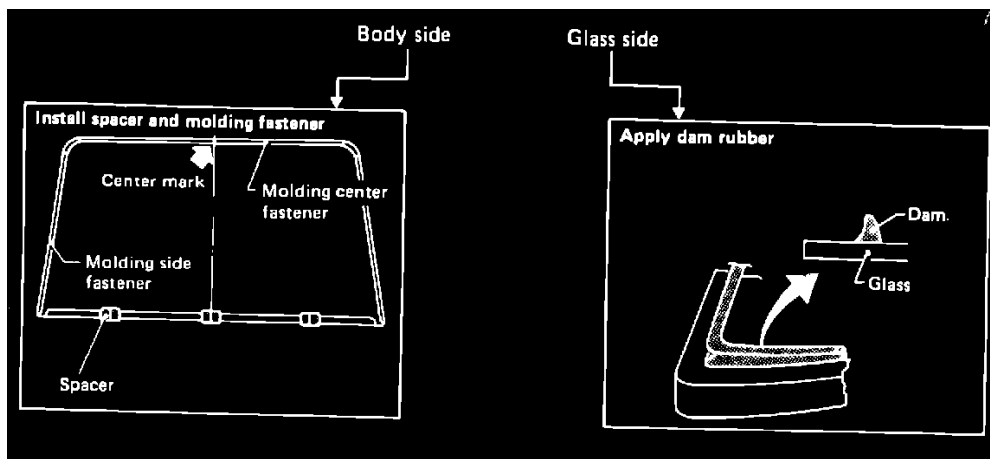

FIGURE 3
5. Install spacers, moldings and rubber dam as required (Figure 3).